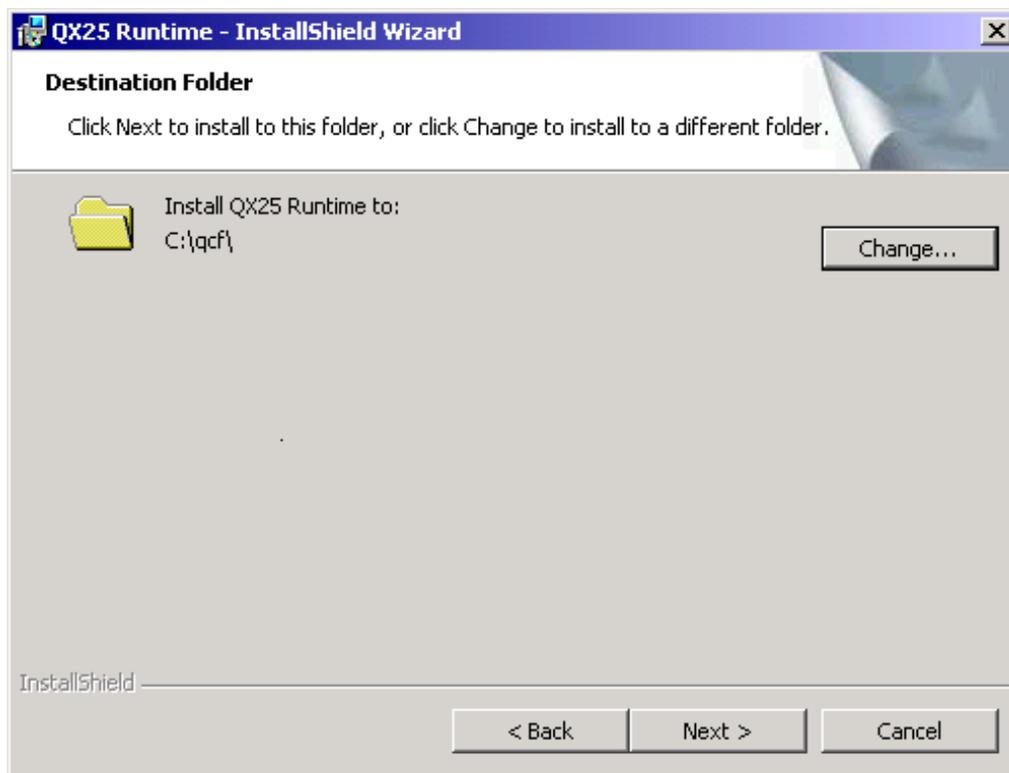

FIGURE 164. Updated destination folder
17. The Destination Folder window appears again, but this time, with the proper directory as shown in Figure 164.